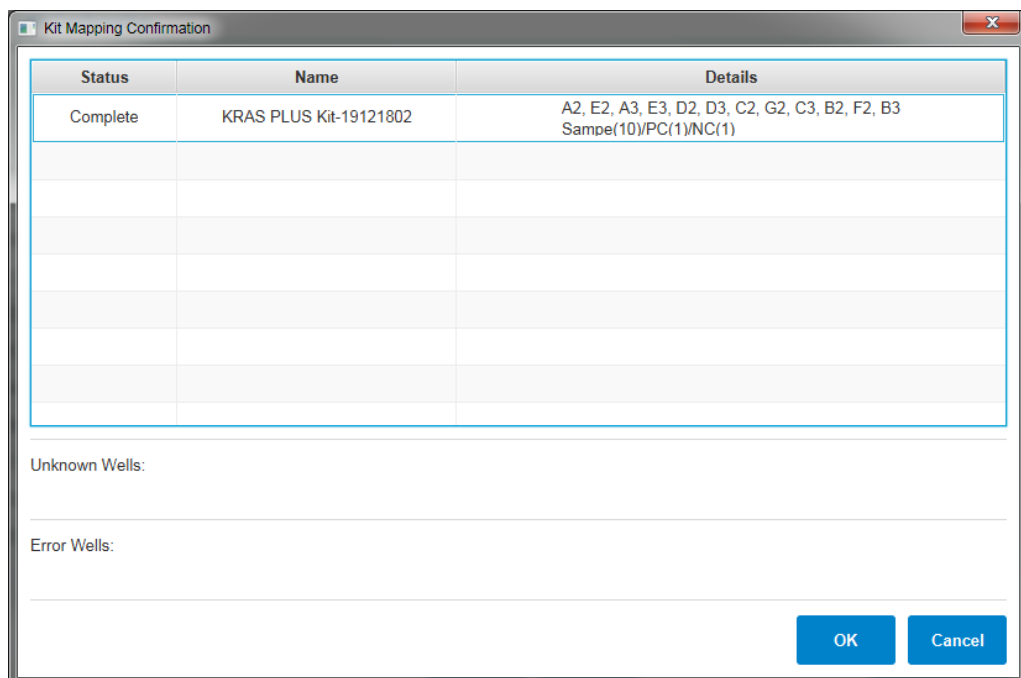

Fig. 30. Post-confirmation summary window
Step 5. After clicking “OK” in the Kit Confirmation window, a post kit mapping summary window shows up (Fig. 30). Confirm that all wells are associated with their respective kits/lots. Click “Cancel” to abort the process. Click “OK” to confirm the file to set the status to *FINISHED*. Once the Parental File has the status *FINISHED*, the report(s) will be associated with the Offspring File(s). Note that the report can only be accessed if the assay-specific APP is installed.